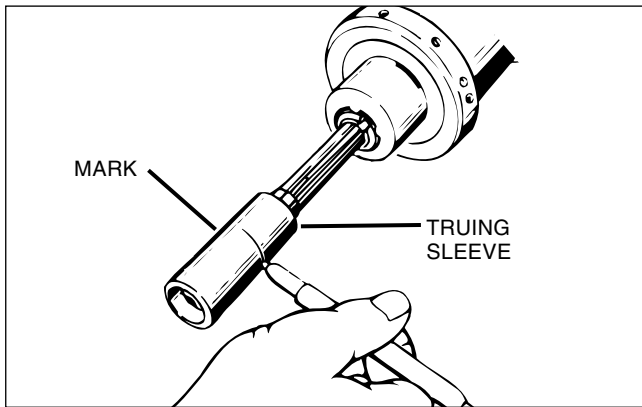

FIGURE 2-6, Mandrel Runout
6. With bushing or sleeve rotating on honing unit, touch a marking pencil to sleeve to indicate high side (see Figure 2-6). Turn FEED selector to EXPAND. This stops spindle while keeping sleeve locked on mandrel. This also will disable Foot Pedal to prevent accidental starting.